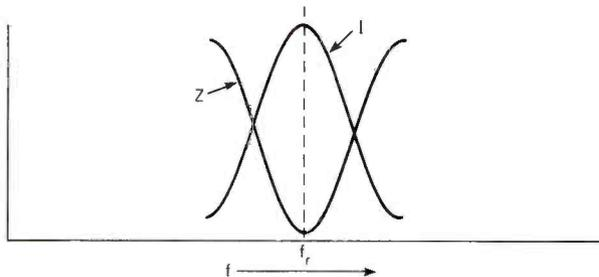

Fig. 5—In a series LCR circuit, at the resonant frequency the impedance is minimum while the current is maximum.
11. (resonance) We can draw a graph showing the variation of circuit impedance and circuit current as frequency varies. See Fig. 5. At resonance, the impedance is lowest ( $Z = R$ ) so the current is the highest.